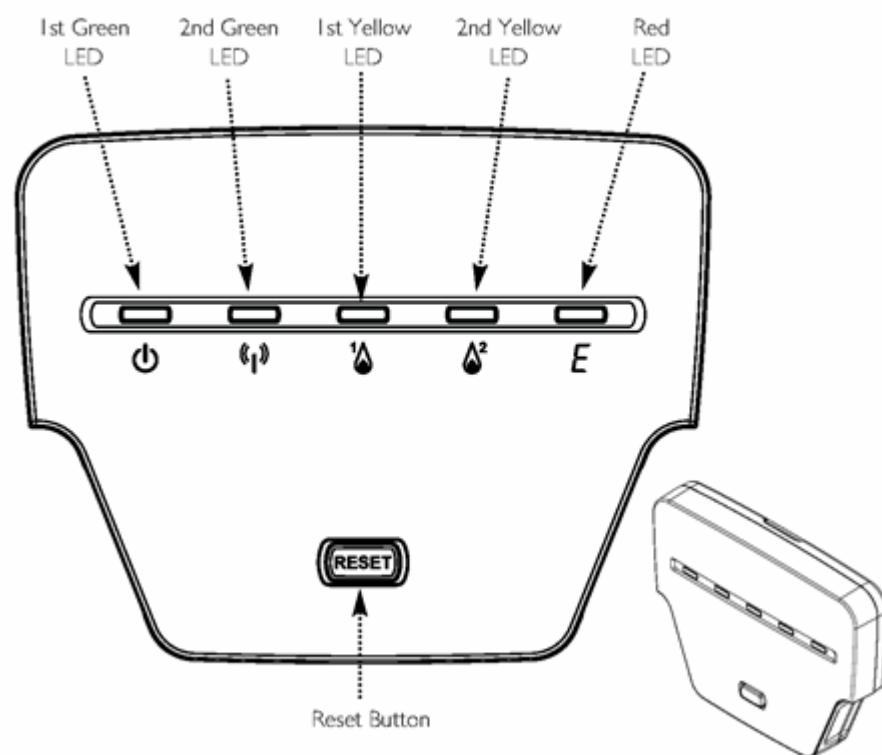

Fig. 43
5 LED Receiver (Fig. 43)
7. When a THINK Controller is mounted in a wall cradle, the 5 LED Receiver fills the space on the appliance. It acts as an indicator see fig. 43 and enables us to carry out resets as they cannot be performed remotely.